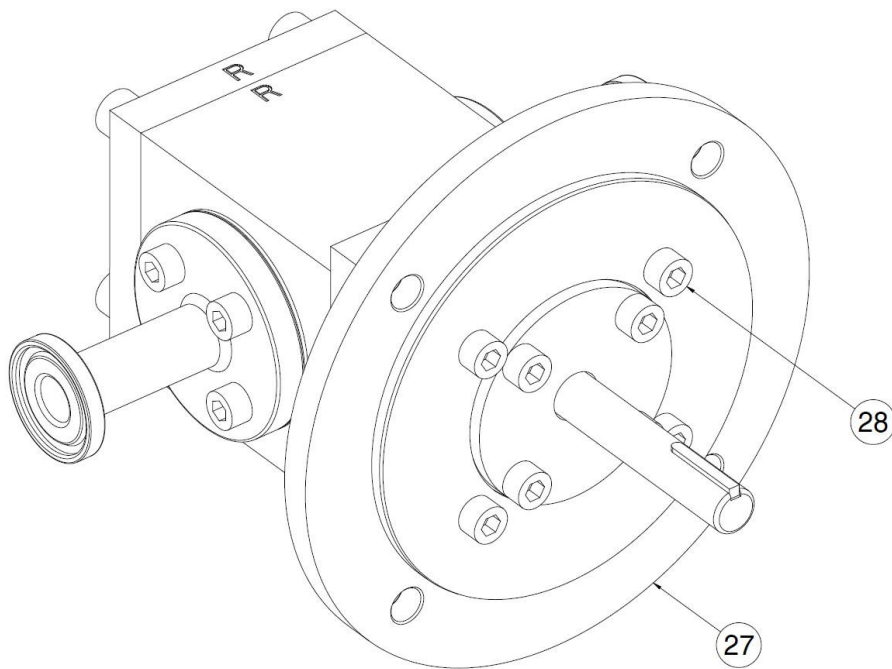

Figure 5: C-Face Adapter and Hardware
1. Install the C-Face Adapter (27) or Foot Mount (34), see Figures 5 and 6.
3. Install the coupling hub on to the Drive Shaft (10). The coupling hub must slide freely on the Drive Shaft. If it does not, locate the problem, correct it, and re-install the coupling hub. The coupling hub is normally positioned so that the end of the drive shaft is flush with the solid part of the coupling hub. Tighten the set screw over the drive shaft key snugly, **DO NOT OVERTIGHTEN**.
6. Install the suction and discharge port adapters (33) to the pump. A Teflon® gasket (31) is used to seal each adapter to the pump body. Install the cap screws (32) and tighten snugly. **DO NOT OVERTIGHTEN**.